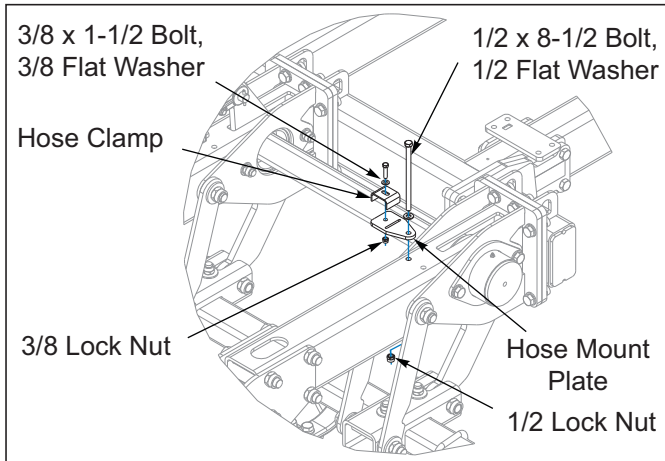

Figure 3-41: Hose Clamp Installation
11. Attach the hose mount plate to arm assemblies using 1/2 x 8-1/2 bolt, 1/2 flat washer and 1/2 lock nut See Figure 3-41.